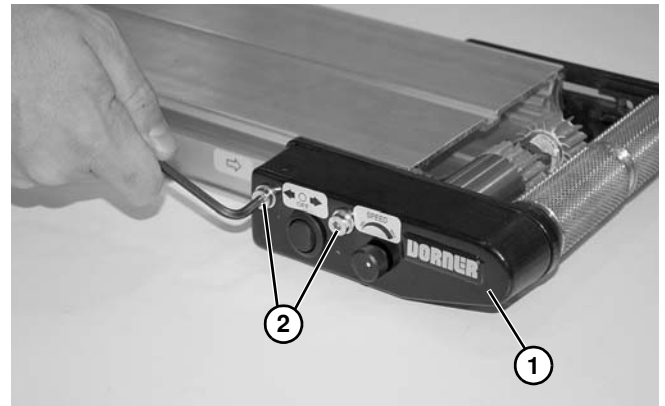

Figure 91
2. Remove drive side cover (**Figure 91, item 1**) by removing two iDrive cover screws (**Figure 91, item 2**).